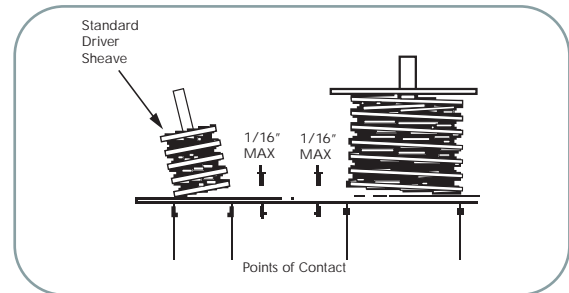

Figure 4 - Standard Drive Alignment
- Place a straight edge across the driver and the driven sheaves as shown in Figure 4.
- The straight edge should contact all four points as shown in Figure 4 indicating proper drive alignment.